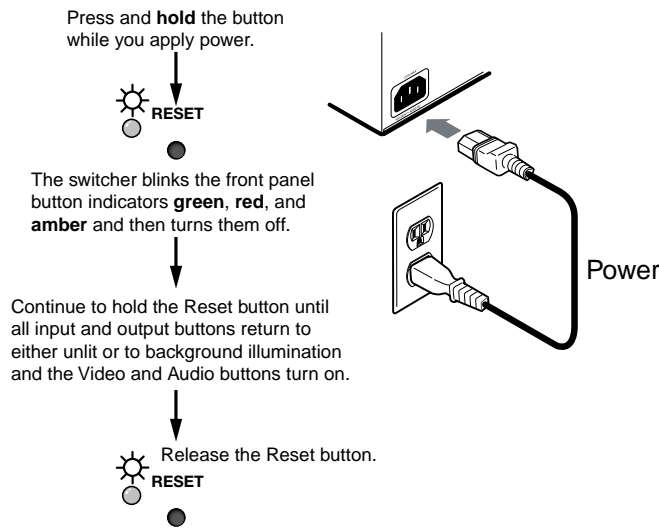

Figure 27. Hard Reset
2. Press and **hold** the Reset button on the rear panel **while** you apply AC power to the switcher (see figure 27).